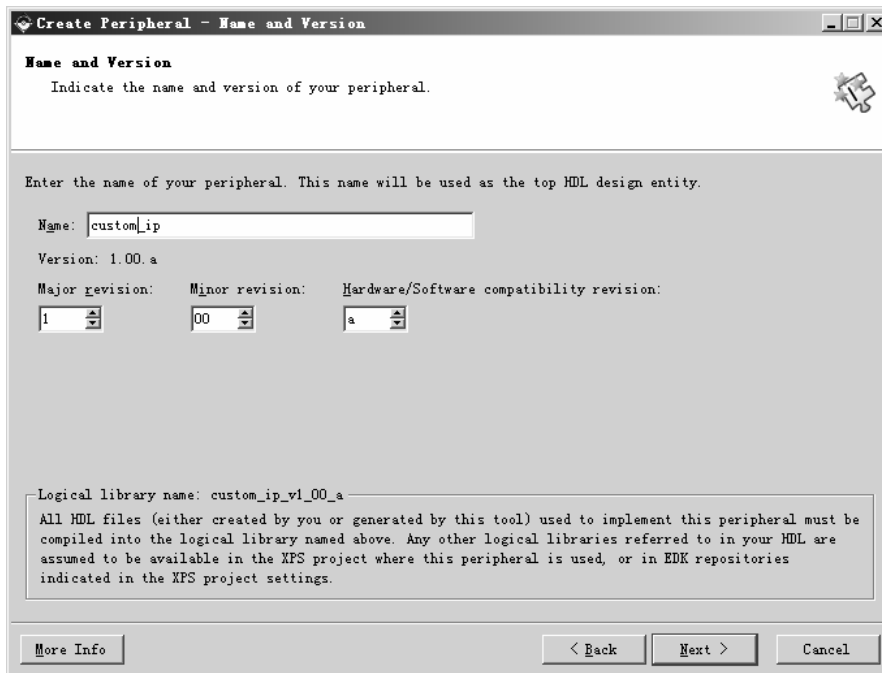

Figure 15: Create Peripheral - Name and Version
- Click **Next**. In the Create Peripheral – Name and Version dialog, enter custom_ip as the name of the peripheral. This is shown in Figure 15.